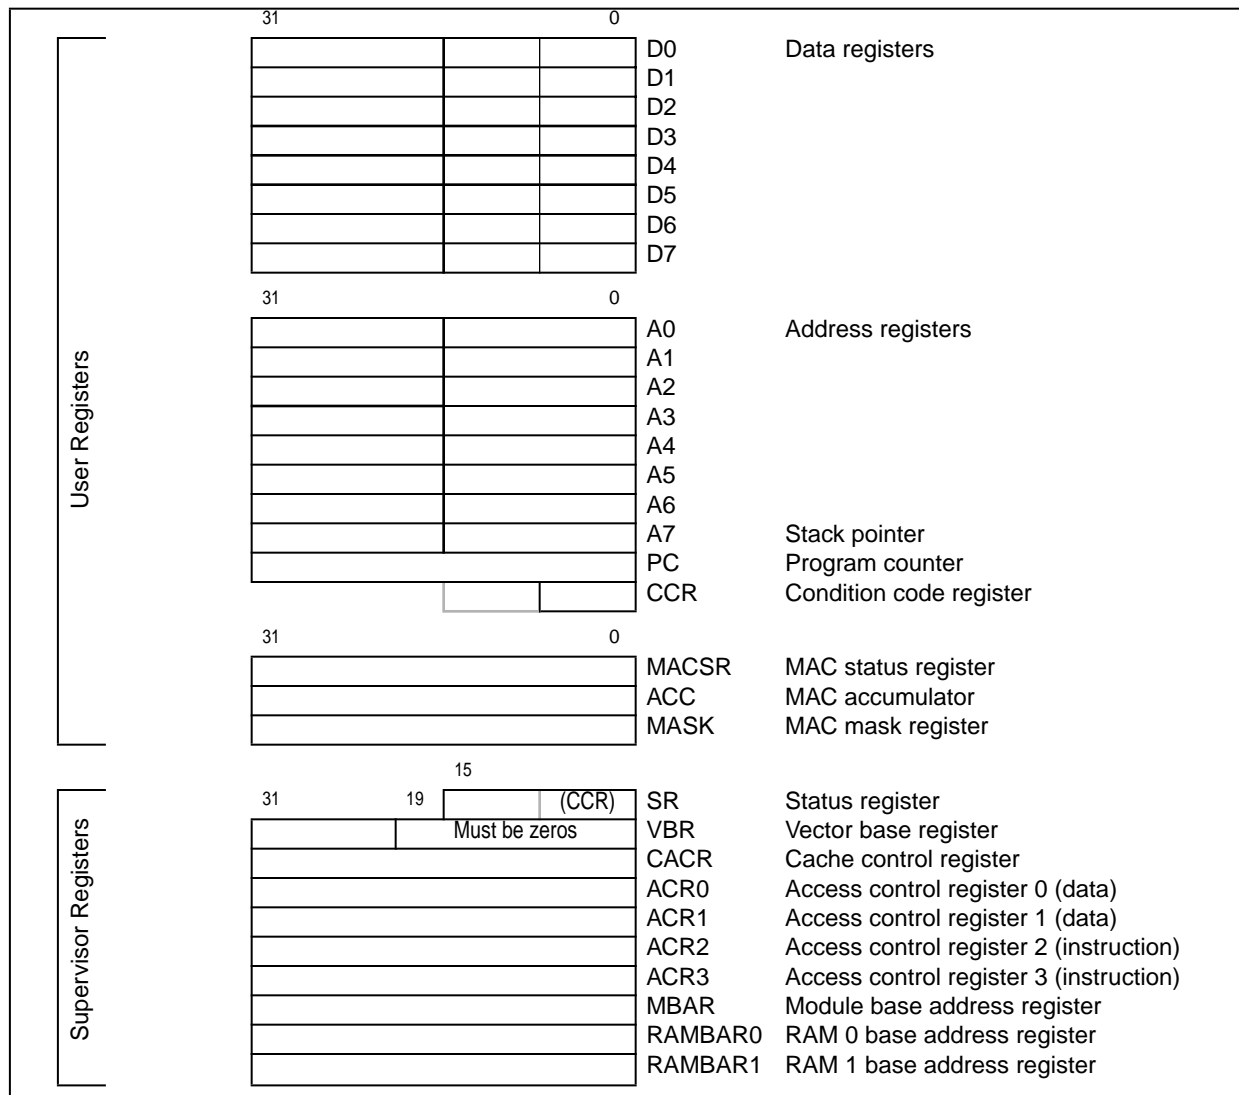

Figure 4. ColdFire MCF5407 Programming Model
Figure 4 shows the MCF5407 programming model.
The user programming model, shown in Figure 4, is summarized in Table 1.
| Status register (SR) | The upper byte of the SR provides interrupt information in addition to a variety of mode indicators signaling the operating state of the ColdFire processor. The lower byte of the SR is the CCR, as shown in Figure 4. |